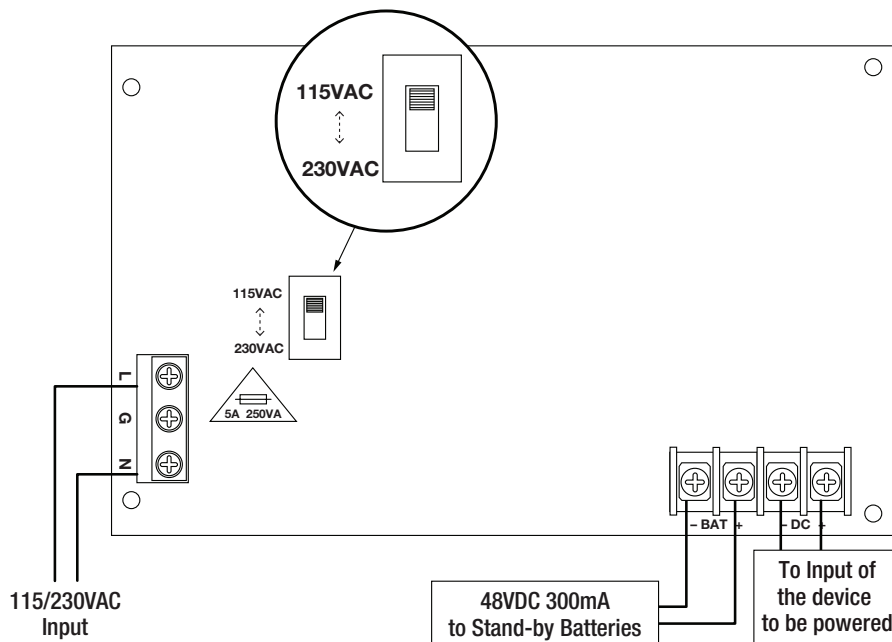

Fig. 1
2. Set POE201 to the proper AC input voltage via input voltage switch (Fig. 1).
3. Connect AC power from overcurrent protective device circuit breaker (20A @ 115VAC, 60Hz, 16A @ 230VAC, 50/60Hz) to the terminals marked [L, N] on power supply board (Fig. 1). Use 14AWG or larger for all power connections (Battery, DC output, AC input).
Connect four (4) 12VDC batteries wired in series to terminals marked [- BAT +] (Fig. 1), carefully observing polarity (battery leads are included).